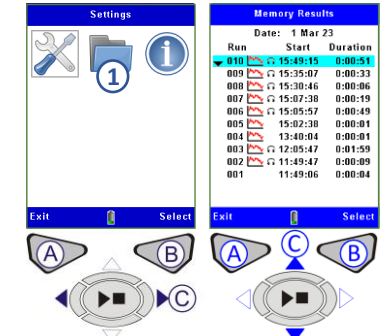

Figure 9 Memory Results
**MEMORY RESULTS (Refer to Figure 9 and 10)**
Notes can be added retrospectively by going to the Main Menu then Memory Results (1 in Figure 9), selecting an appropriate measurement run and then